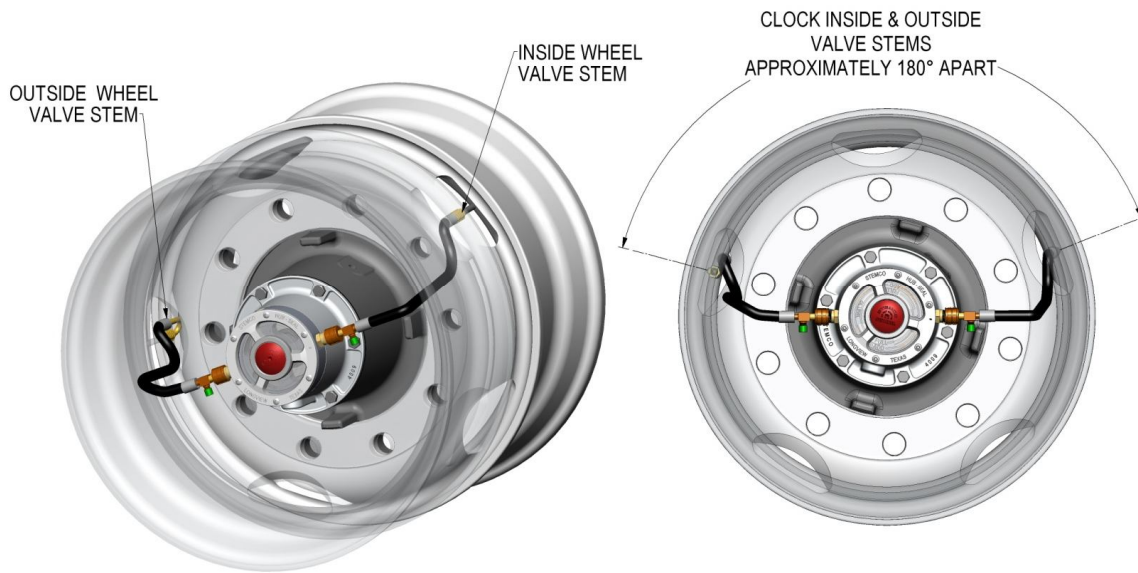

Figure 10
- Wheels on each wheel end (dual tires) must have the valve stems clocked approximately 180° apart for installation of airlines to Aeris hubcap and valve stems on tires. Clocking should be done prior to installing Aeris system. See Figure 10